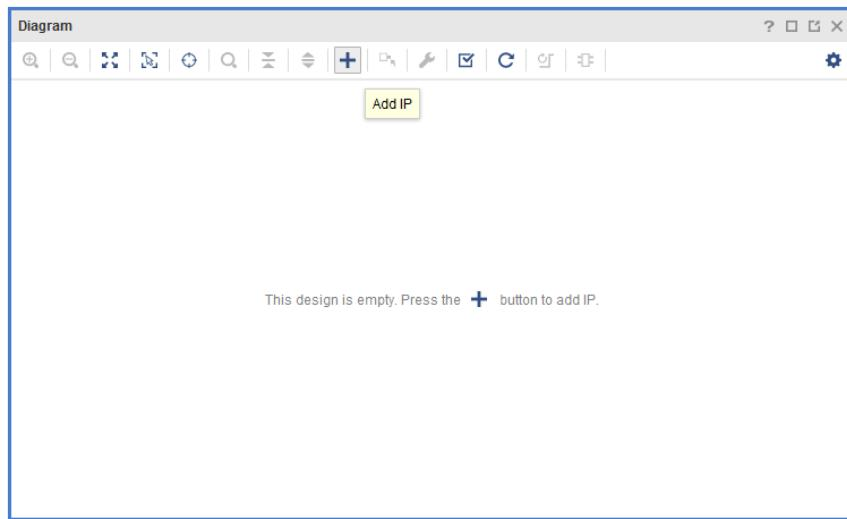

Figure 12.43: Add IP button
- Click on the **Add IP** button in the IP Integrator sidebar menu, see Figure 12.43.